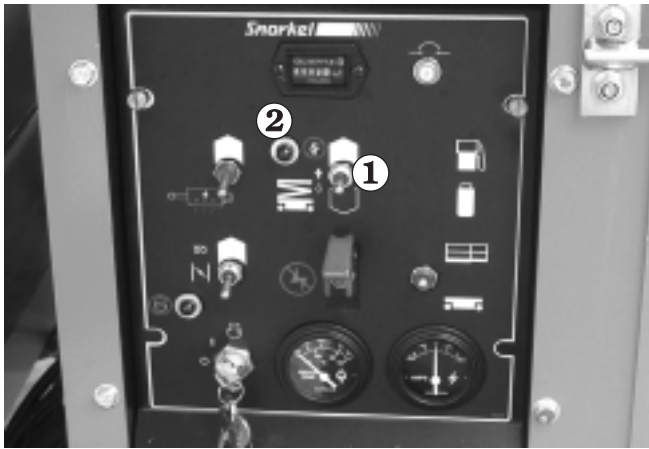

Figure 8.9
2. To raise the platform, press and hold the **Platform Lift/Lower** switch **1** up (see Figure 8.9).
3. To lower the platform, press and hold the **Platform Lift/Lower** switch **3** down (see Figure 8.9).